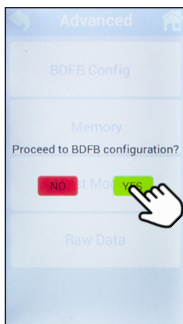

Figure 55. Proceed to BDFB Configuration
- Step 4.** Select **YES** to proceed to the BDFB configuration screen (see Figure 55).